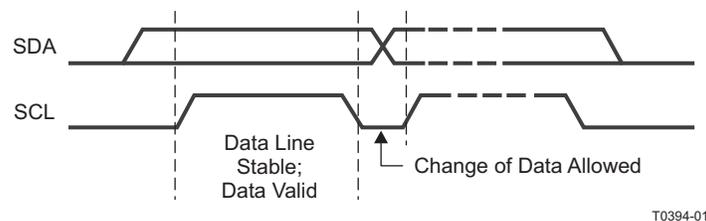
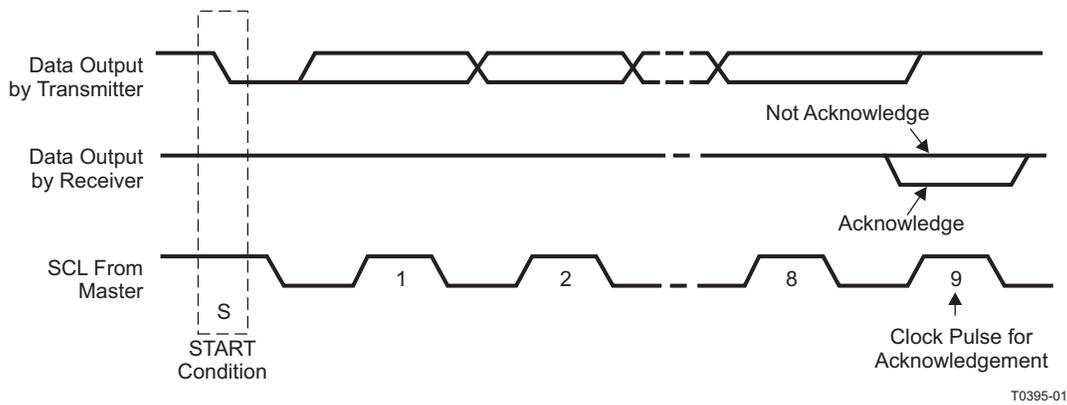

Figure 37. I2C Bit Transfer
Figure 38. I2C Acknowledge
- The master then generates the SCL pulses and transmits the 7-bit address and the *read/write direction bit* R/W on the SDA line. During all transmissions, the master ensures that data is *valid*. A *valid data condition* requires the SDA line to be stable during the entire high period of the clock pulse (see Figure 37). All devices recognize the address sent by the master and compare it to their internal fixed addresses. Only the slave device with a matching address generates an *acknowledge* (see Figure 38) by pulling the SDA line low during the entire high period of the ninth SCL cycle. On detecting this acknowledge, the master knows that a communication link with a slave has been established.